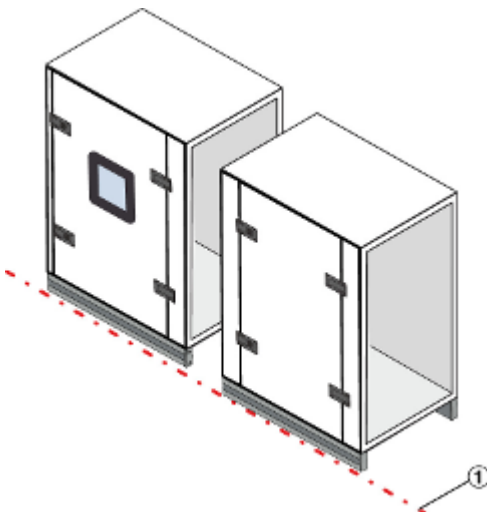

Fig. 13: Aligning AHU casing units
5. ▶ Align the AHU casing units so that they are flush with one another (Fig. 13 /1).